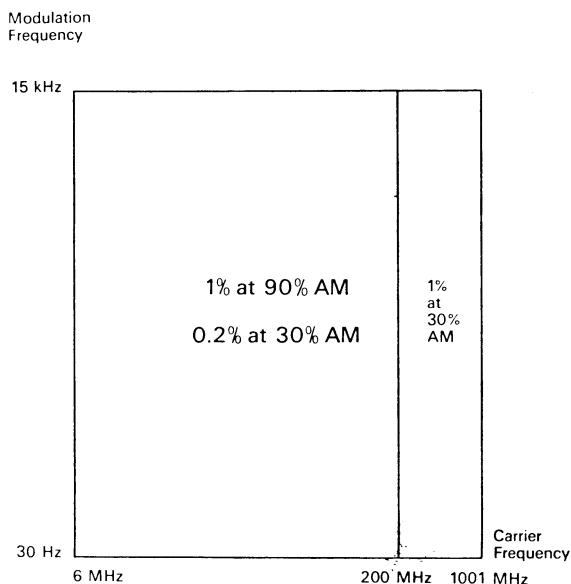

Fig.E2. Distortion for modulation percentage measurements.
14) Read the modulation percentage. Check whether the reading is the same for both peaks of modulation: a difference indicates distortion of the modulation envelope. See Fig.E2, and refer to SECTION B - SPECIFICATIONS under "AM MODULATION Distortion".